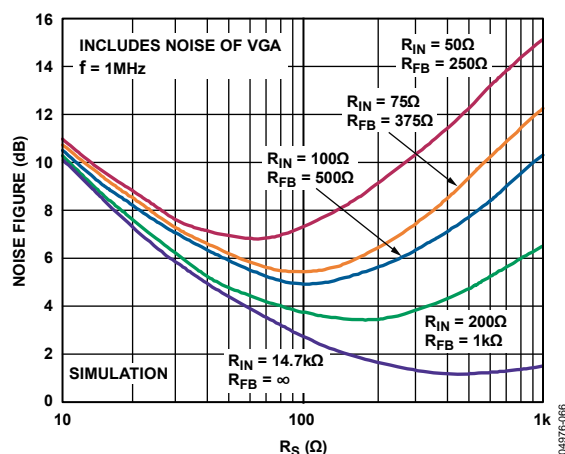

Figure 56. Simulated Noise Figure vs.  $R_s$  for Various Fixed Values of  $R_{IN}$ , Actively Matched
Figure 56 shows the simulated noise figure (NF) vs. source resistance, and various values of preamplifier  $R_{IN}$  from 50  $\Omega$  to 14.7 k $\Omega$ , the value seen looking into the PIPx pins when  $R_{FB} = \infty$ . As shown in the figure, the minimum NF for  $R_{IN} = 50 \Omega$  is slightly less than 7 dB. Note that, for this preamplifier, the NF is optimized for the  $R_{IN}$  from 50  $\Omega$  to 200  $\Omega$ ; for  $R_{FB} = \infty$ , the minimum NF is at approximately 480  $\Omega$ . This optimum noise resistance can also be calculated by dividing the input referred voltage noise by the current noise.